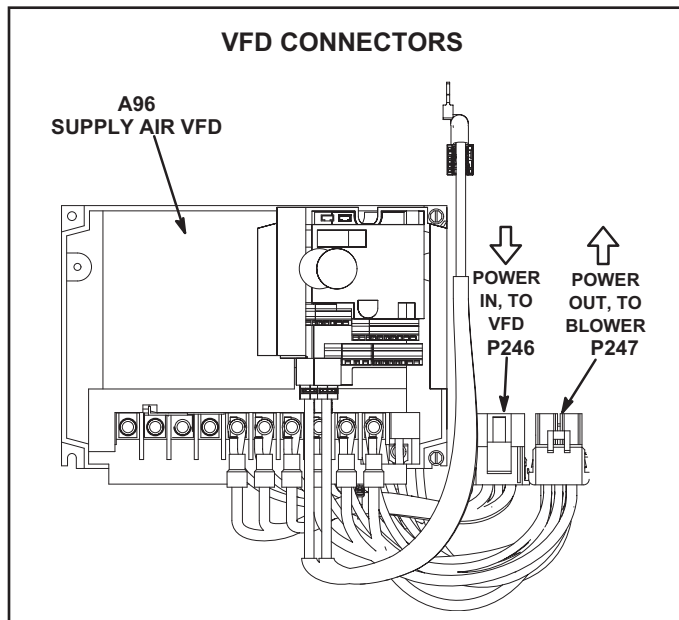

FIGURE 40
- 2 - Locate P246 and P247 connectors near the VFD. See FIGURE 40.